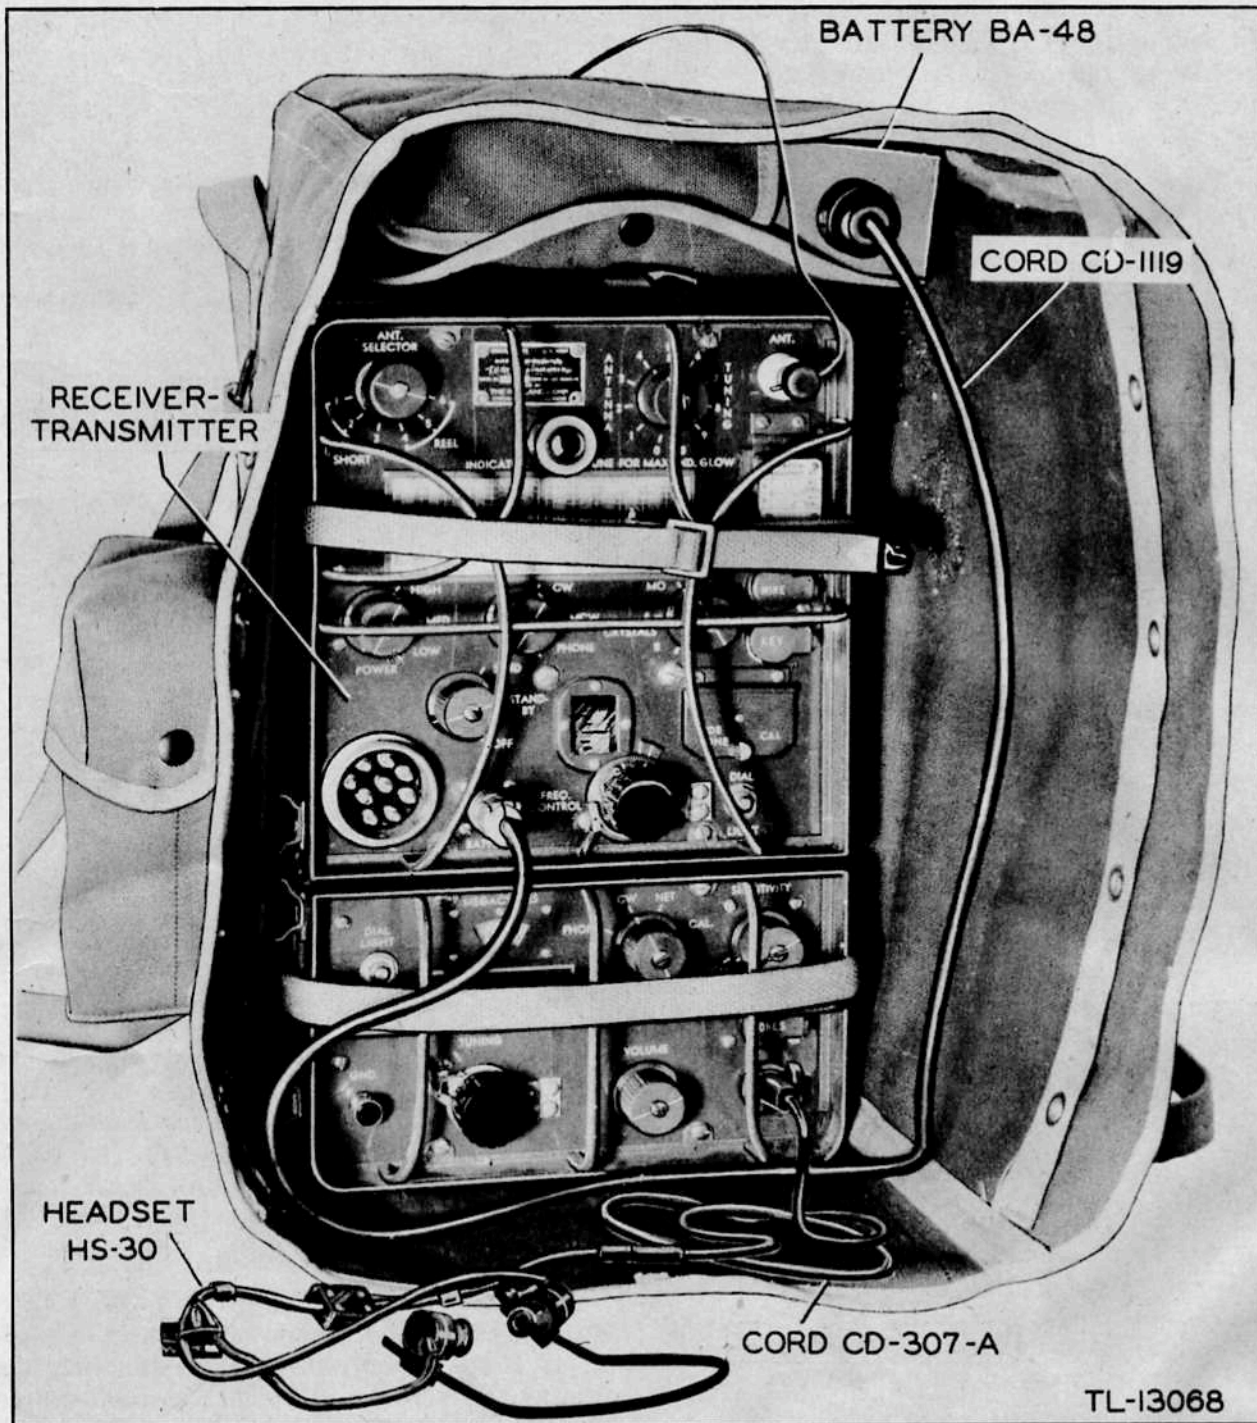

Figure 16. Receiver and transmitter and accessories.
a. Take the receiver-transmitter out of its canvas cover and remove Panel Cover M-404. Slip the cover on the back of the set and re-install in the bag, leaving the front flaps open to allow operation of the controls and entrance of the cables (fig. 16).